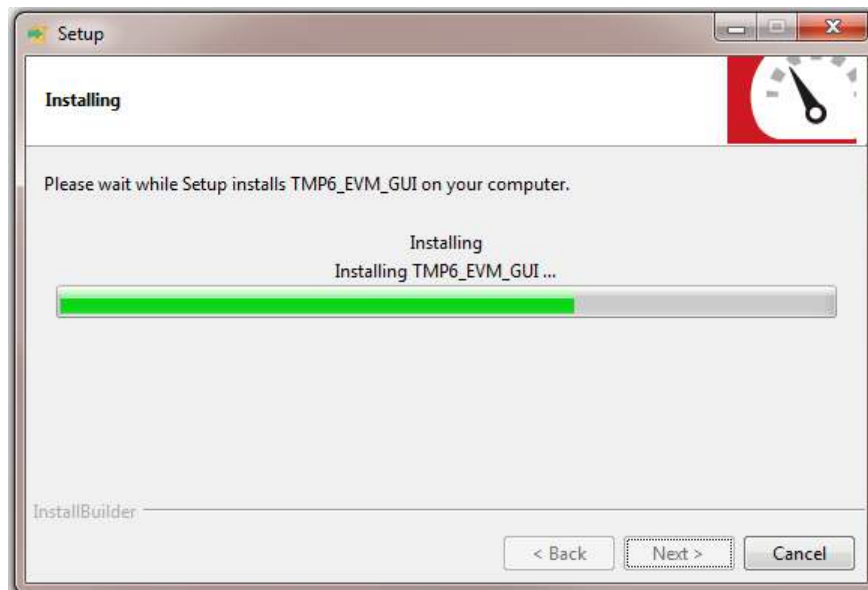

Figure 18. TMP6 EVM GUI Installation
- The installer will begin as shown in Figure 18.